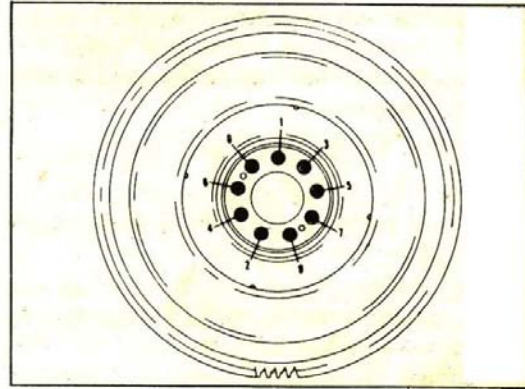

Fig. 14-48, Flywheel to crankshaft tightening sequence
4. Install the seven (7) place bolts and tighten by hand 1 to 1-1/2 turns.
6. Tighten all the place bolts in sequence as shown in Fig. 14-48 to 100 to 120 ft-lbs (136 to 163 Nm) torque.